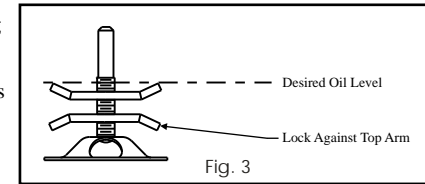

Fig. 3
5. Set oil level adjuster (**Opto Laser Level Tool** can be used). Thread top adjuster arm to desired level, then thread lower adjuster arm together with top to lock into place. (Fig. 3)